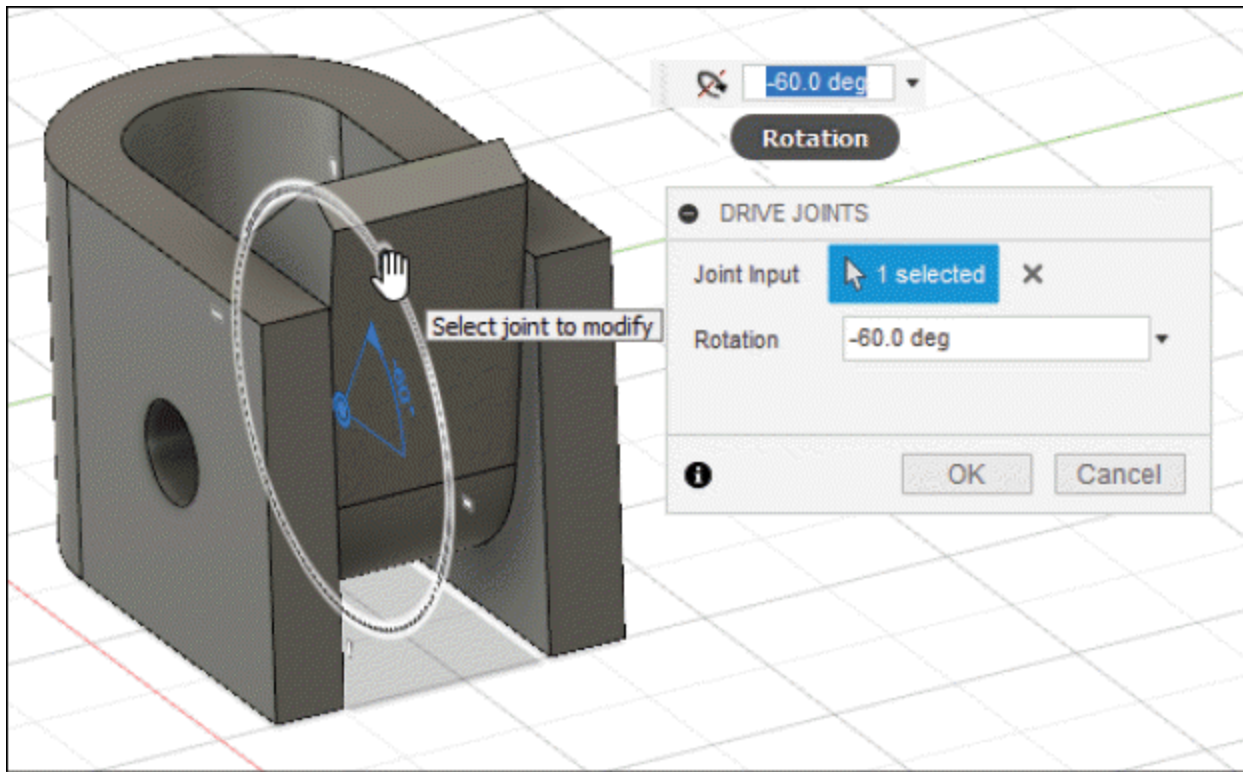

Figure-45. Specifying the rotation limits
- Click in the **Rotation** edit box and specify the angle of rotation. You can also specify rotation limits by moving the drag handle; refer to Figure-45.